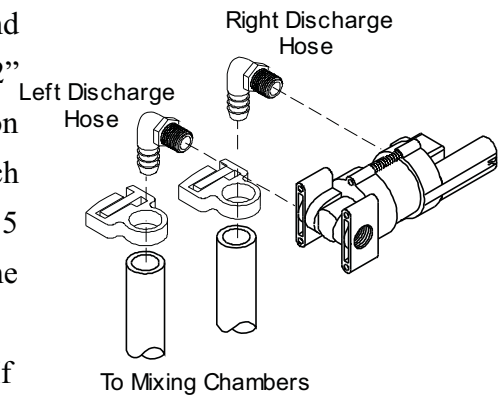

Figure 5: Discharge hose mounting
1. One 30 foot length of 1/2" discharge hose is included and may be cut as needed. Begin by attaching the 1/2" discharge hose to the hose barbs on the solenoid valve on the foamer unit. It is important that you determine which hose barb is for the left and for the right side. See Figure 5 on page 5. Clamp the hose onto the hose barbs with the included nylon hose clamps.